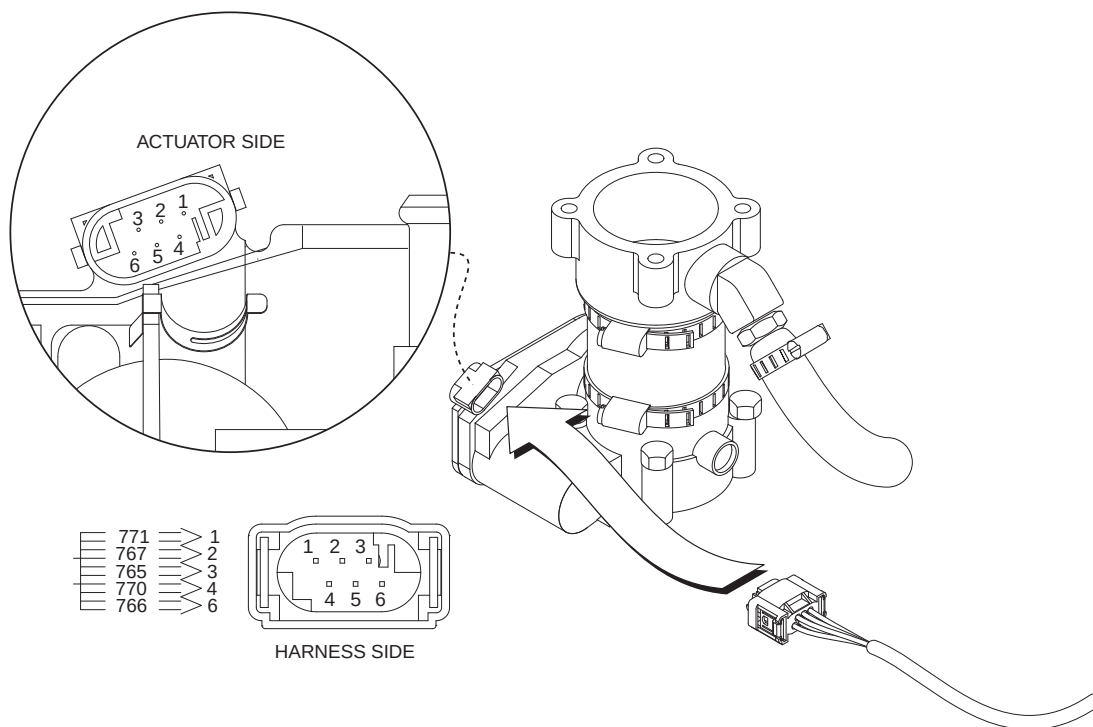

Figure 23. Bosch Actuator and Mixer Assembly
2. Disconnect the engine wiring harness from the Bosch governor actuator. (See Figure 23)
4. Connect one meter test lead to Pin 1 (Wire 771) and connect the other meter test lead to Pin 4 (Wire 770) on the female side of the 6 pin connector. Refer to Figure 23.